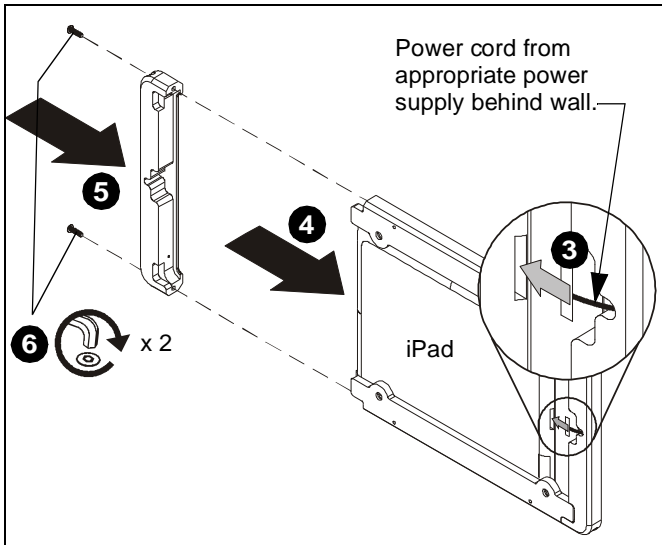

Figure 9
3. Attach power cord to iPad, if desired. Cable must pass through wall and be connected to an appropriate power supply. (See Figure 9)
6. Fasten FSRI2T together using the two 06-32 x 1/4" buttonhead security screws removed previously in Step 1. (See Figure 9)